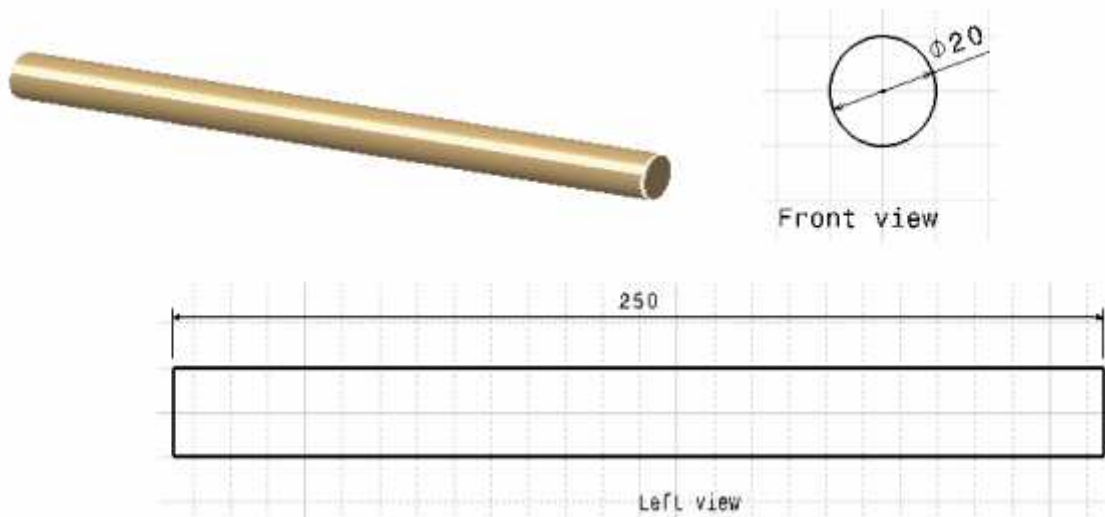

Figure 3.5 The connecting Shaft (all dimensions are in mm)
4. *Connecting Shaft*: this mechanical component was designed and manufactured from rigid material (which is aluminum) to achieve the following: (see figure 3.5)